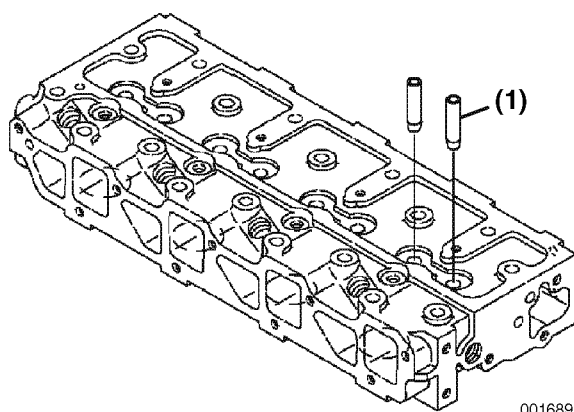

Figure 6-28
2. Immediately after removing the valve guides from the freezer, insert the valve guides (**Figure 6-28, (1)**) in their proper positions.